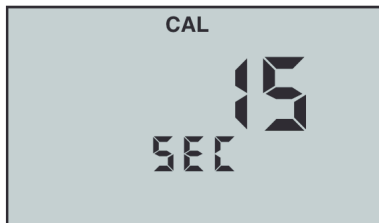

Figure 25
4. Press  to initiate. “CAL” will be displayed along with “15 SEC” or current Auto oFF value (see Figure 25).